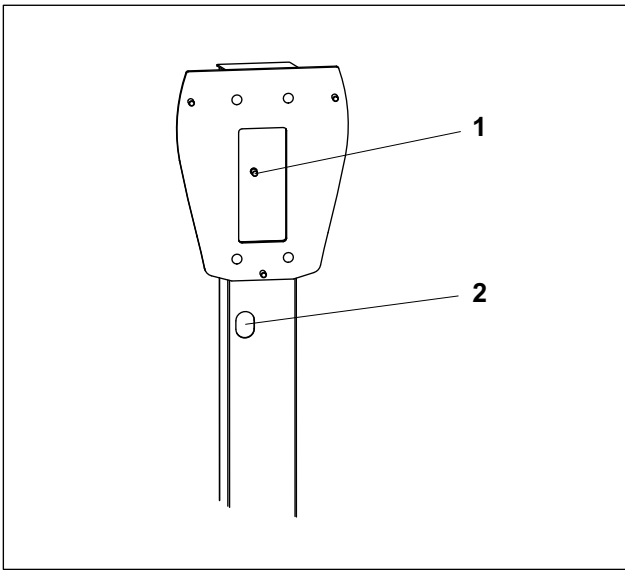

Fig. 3 Grounding point of the column
5. Attach a cable protecting sleeve (separate parts set) to the cable outlet opening (Fig. 3/2).
8. Connect the equipotential bonding line to the grounding pin (Fig. 3/1) of the column.